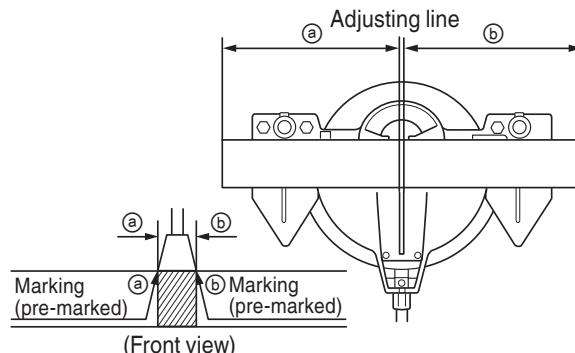

Fig. 15
- (1) As shown in Fig. 15 the width of the saw blade is the width of the cut. Therefore, slide the workpiece to the right (viewed from the operator's position) when length ④ is desired, or to the left when length ③ is desired.
- (2) Once the saw blade reaches maximum speed, push the handle down carefully until the saw blade approaches the workpiece.
- (3) Once the saw blade contacts the workpiece, push the handle down gradually to cut into the workpiece.
- (4) After cutting the workpiece to the desired depth, turn the power tool OFF and let the saw blade stop completely before raising the handle from the workpiece to return it to the full retract position.